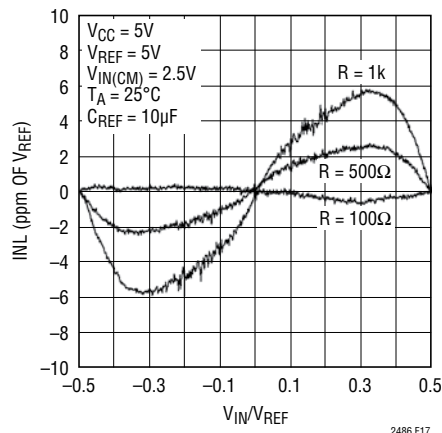

Figure 17. INL vs Differential Input Voltage and Reference Source Resistance for $C_{REF} > 1\mu\text{F}$
0.67ppm per 100Ω of reference resistance results (see Figure 17). In applications where the input and reference common mode voltages are different, the errors increase.